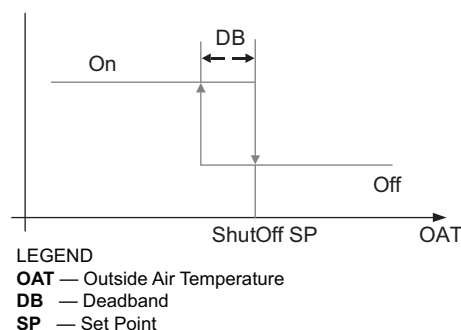

Fig. 61 — Hysteresis Settings
Hysteresis setting (DB) defaults to 2°F (–17°C). See Fig. 61.